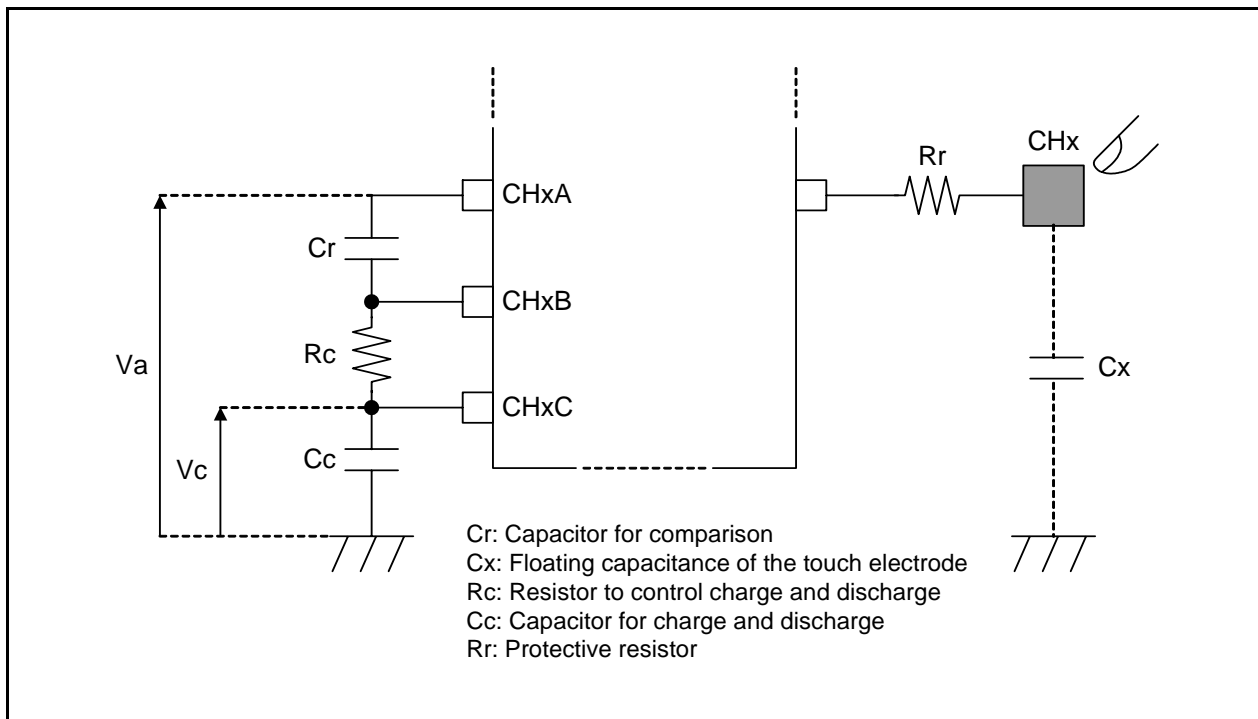

Figure 24.5 Measurement Circuit Section
Figure 24.5 shows the Measurement Circuit Section. The measurement operation principle of the sensor touch control unit is explained below.
As shown in Figure 24.5, the operation is described with resistors and capacitors inserted.
- (1) Charge Cc by connecting the CHxC pin to the voltage supply (VCC).
- (2) After charging Cc fully, discharge Cc by connecting pins CHxA and CHxB to the ground level (VSS).
- (3) After discharging Cc for a short period of time, keep pins CHxA and CHxB at high-impedance (Hi-Z), and measure the voltage at the CHxA pin. At this point, as shown in Figure 24.5, when the voltage measured at the CHxA pin is Va, and the voltage measured at the CHxC pin is Vc, Va at the time of voltage measurement is expressed by the following formula (A).